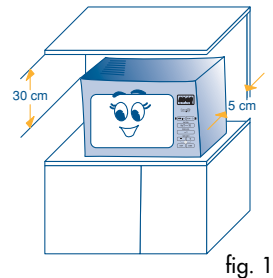

fig. 1
- 1) Unpack the oven and remove the protective packaging containing the turntable (G), turntable support (H) and accessories. Check that the turntable spindle (D) is correctly inserted at the centre of the turntable.
- 5) **When positioning the oven on the worktop, take care to maintain a gap of approx. 5 cm between the oven and the walls to its rear and sides and a gap of at least 30 cm above the oven (fig. 1).**